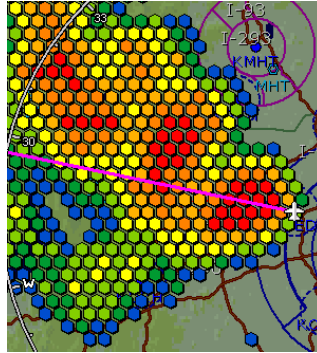

Figure 2.2 TWXCELL Mode Display
- ◆ **TWXCELL** - If Wx Ovly is set to TWXCELL, the EX5000 displays thunderstorm cells detected by the TWX670, using colors (Table 2.1) to indicate levels of storm intensity. For example, Figure 2.2 shows an aircraft located at the edge of intense thunderstorm activity. In this instance, the aircraft must be flown away from the thunderstorm. The TWX670 detects and measures lightning strike energy and generates cell data that the EX5000 displays in